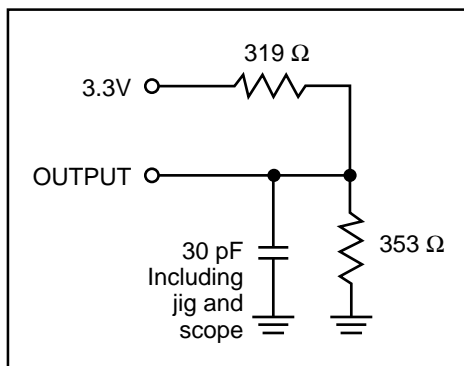

Figure 1.
- Test conditions assume signal transition times of 3 ns or less, timing reference levels of 1.5V, input pulse levels of 0 to 3.0V and output loading specified in Figure 1.
Output Load	See Figures 1 and 2
1. Test conditions assume signal transition times of 3 ns or less, timing reference levels of 1.5V, input pulse levels of 0 to 3.0V and output loading specified in Figure 1.